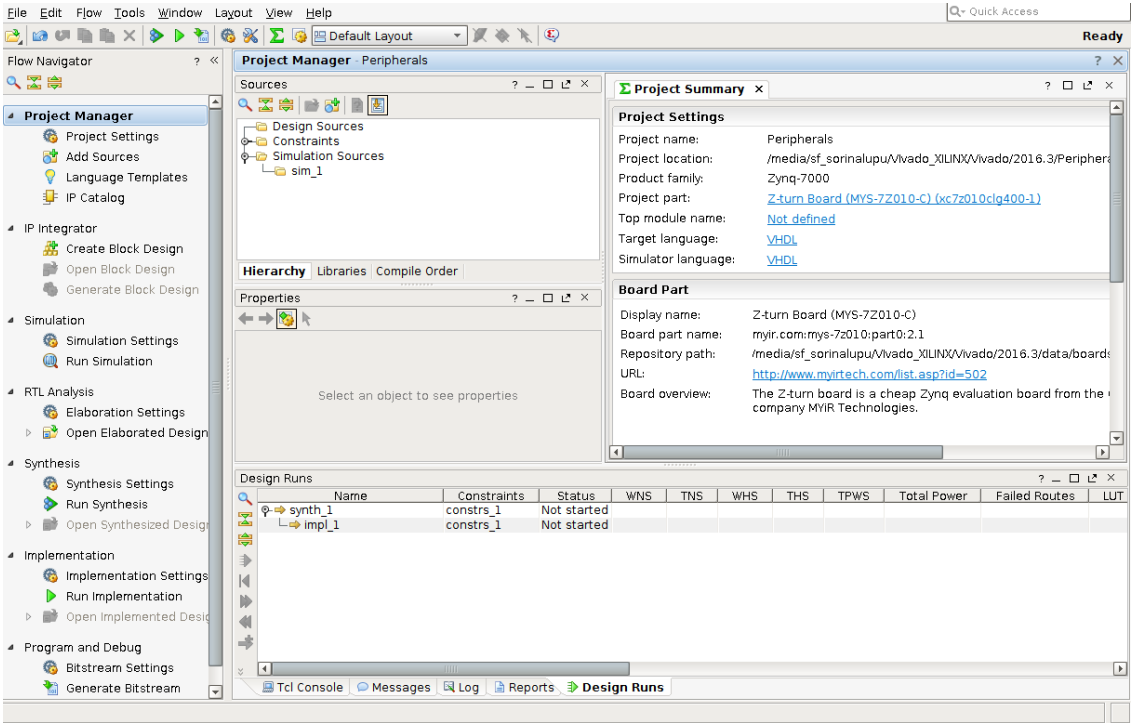

Figure 6: Project Structure
- 3. The **Peripherals** project should now look similar to Figure 6. In this project, we will implement the necessary files to control an RGB LED and a buzzer.